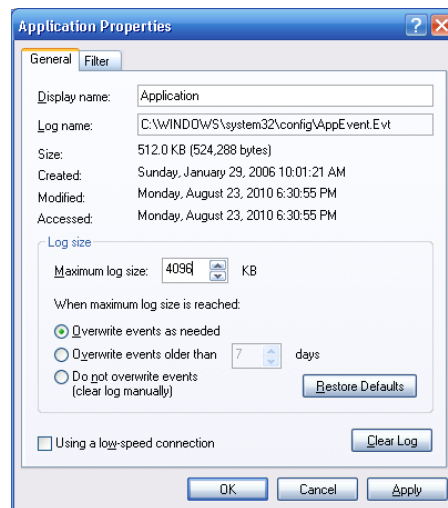

Figure 3-2 - Proper Application Event Log Settings
3. Enter 4096 KB for the *Maximum log size* and ensure *Overwrite events as needed* is selected (see FIGURE 3-2)